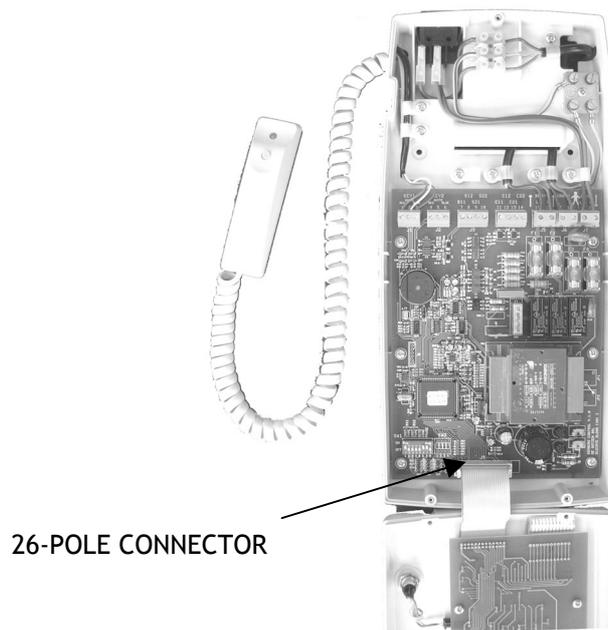

Fig. 21
2. Take out the drilling template ①
5. Insert the three screw anchors provided into the holes ②
6. Open the timer by unscrewing the three screws ③
7. Withdraw the 26-pole connector from its seat to release both timer guards (*Fig. 21*)